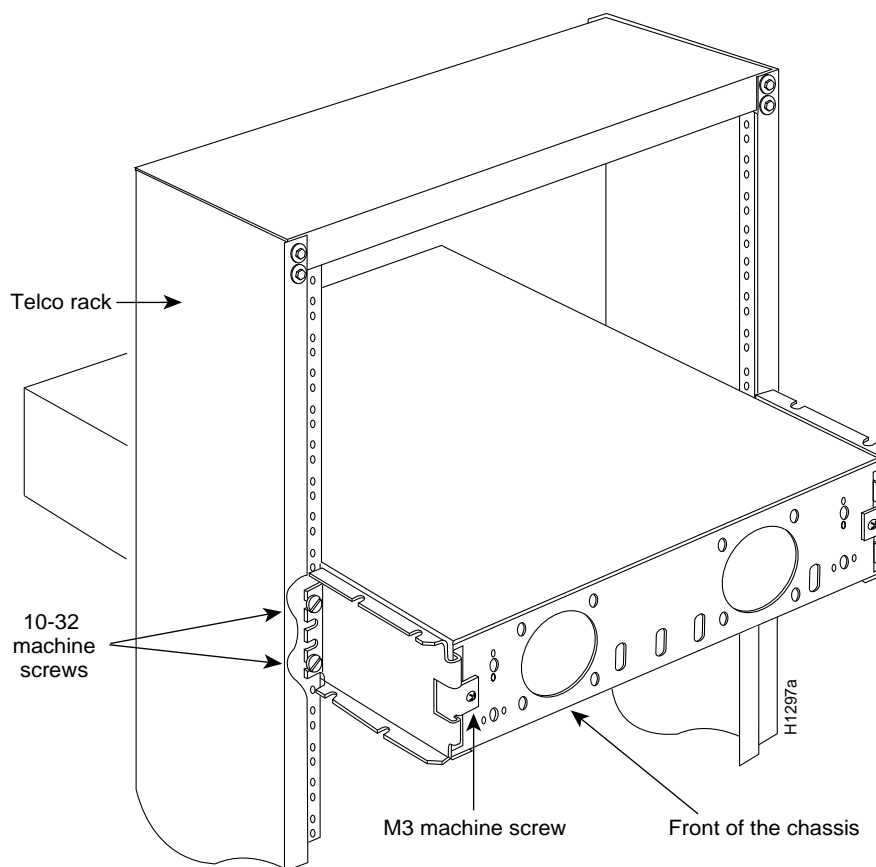

Figure 13 Telco Rack-Mounted Chassis
Step 1: Partially thread two 10-32 machine screws into one side of the telco rack with enough space to allow one side bracket to fit (see Figure 13).